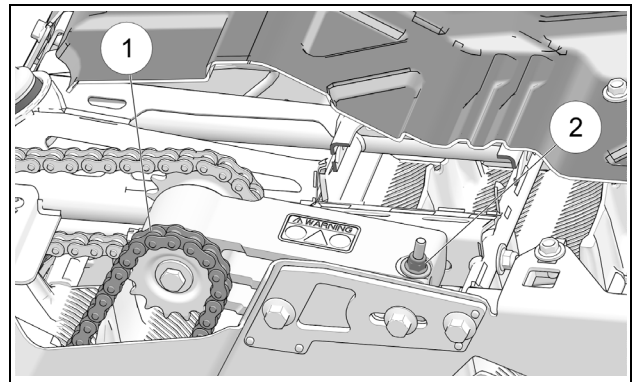

Figure 5
- Adjust next the tension in the secondary drive chain (1) by turning the vertical adjustment nut (2) on the chain tensioner. See Figure 5.